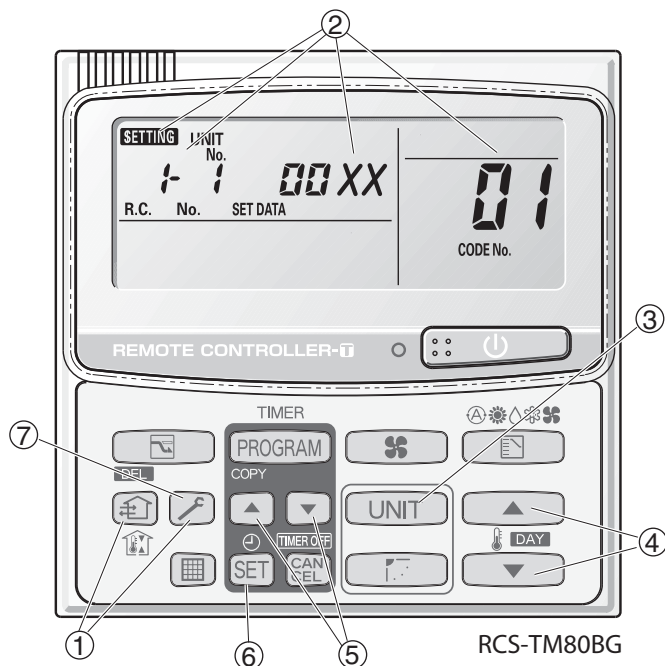

Fig. 1
- "**SETTING**," unit No. "**1-1**" (or "**ALL**" in the case of group control), item code "**01**," and settings data "**00XX**" are displayed blinking on the remote controller LCD display (Fig. 1). At this time, the indoor unit fan (or all indoor unit fans in the case of group control) begins operating.